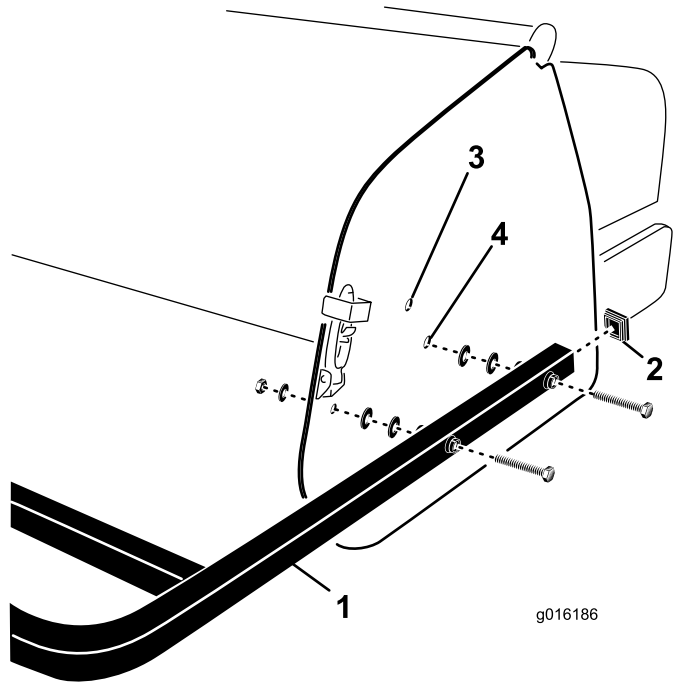

Figure 32
2. Align the holes in the rear guard mounting tubes with the holes in the aerator side plates (Figure 32).
3. Secure the guard mounting tubes to the side plates with 4 screws, flat washers and nuts (Figure 32).
1. Insert the end caps into the ends of the rear guard tubes (Figure 32).